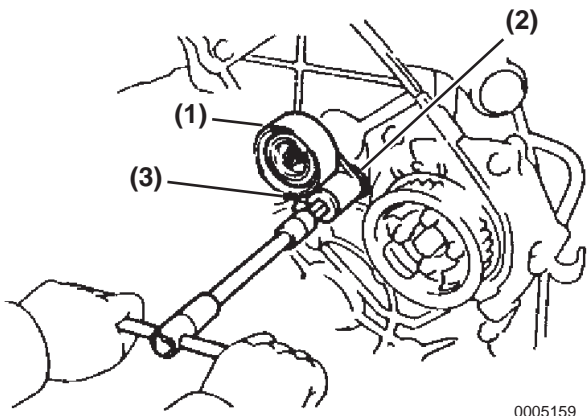

Figure 5-161
4. Remove the pivot bolt, idler pulley **(Figure 5-161, (1))** and plate washer **(Figure 5-161, (2))** using an 8 mm hex / allen wrench **(Figure 5-161, (3))**.